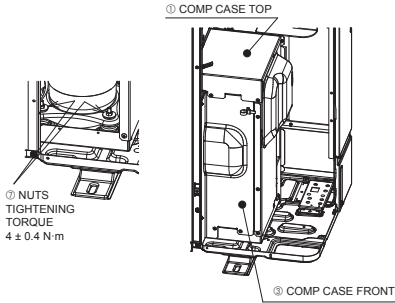

Fig. 4-2
- After removing the COMP fixed parts, be sure to tighten nuts, and make COMP CASE TOP and COMP CASE FRONT back to the original state. (Fig. 4-2)